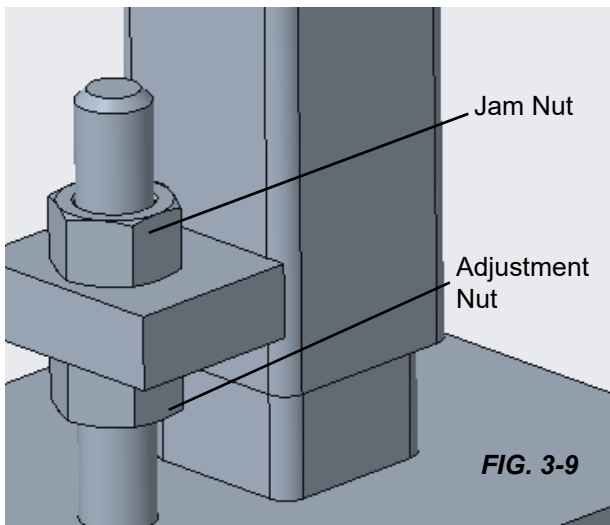

FIG. 3-9
1. The bed section leveling will be discussed thoroughly in the Setup section of the manual. The legs are adjusted by loosening the upper jam nut and adjust leg height by tightening or loosening the lower adjustment nut. See FIGURE 3-9